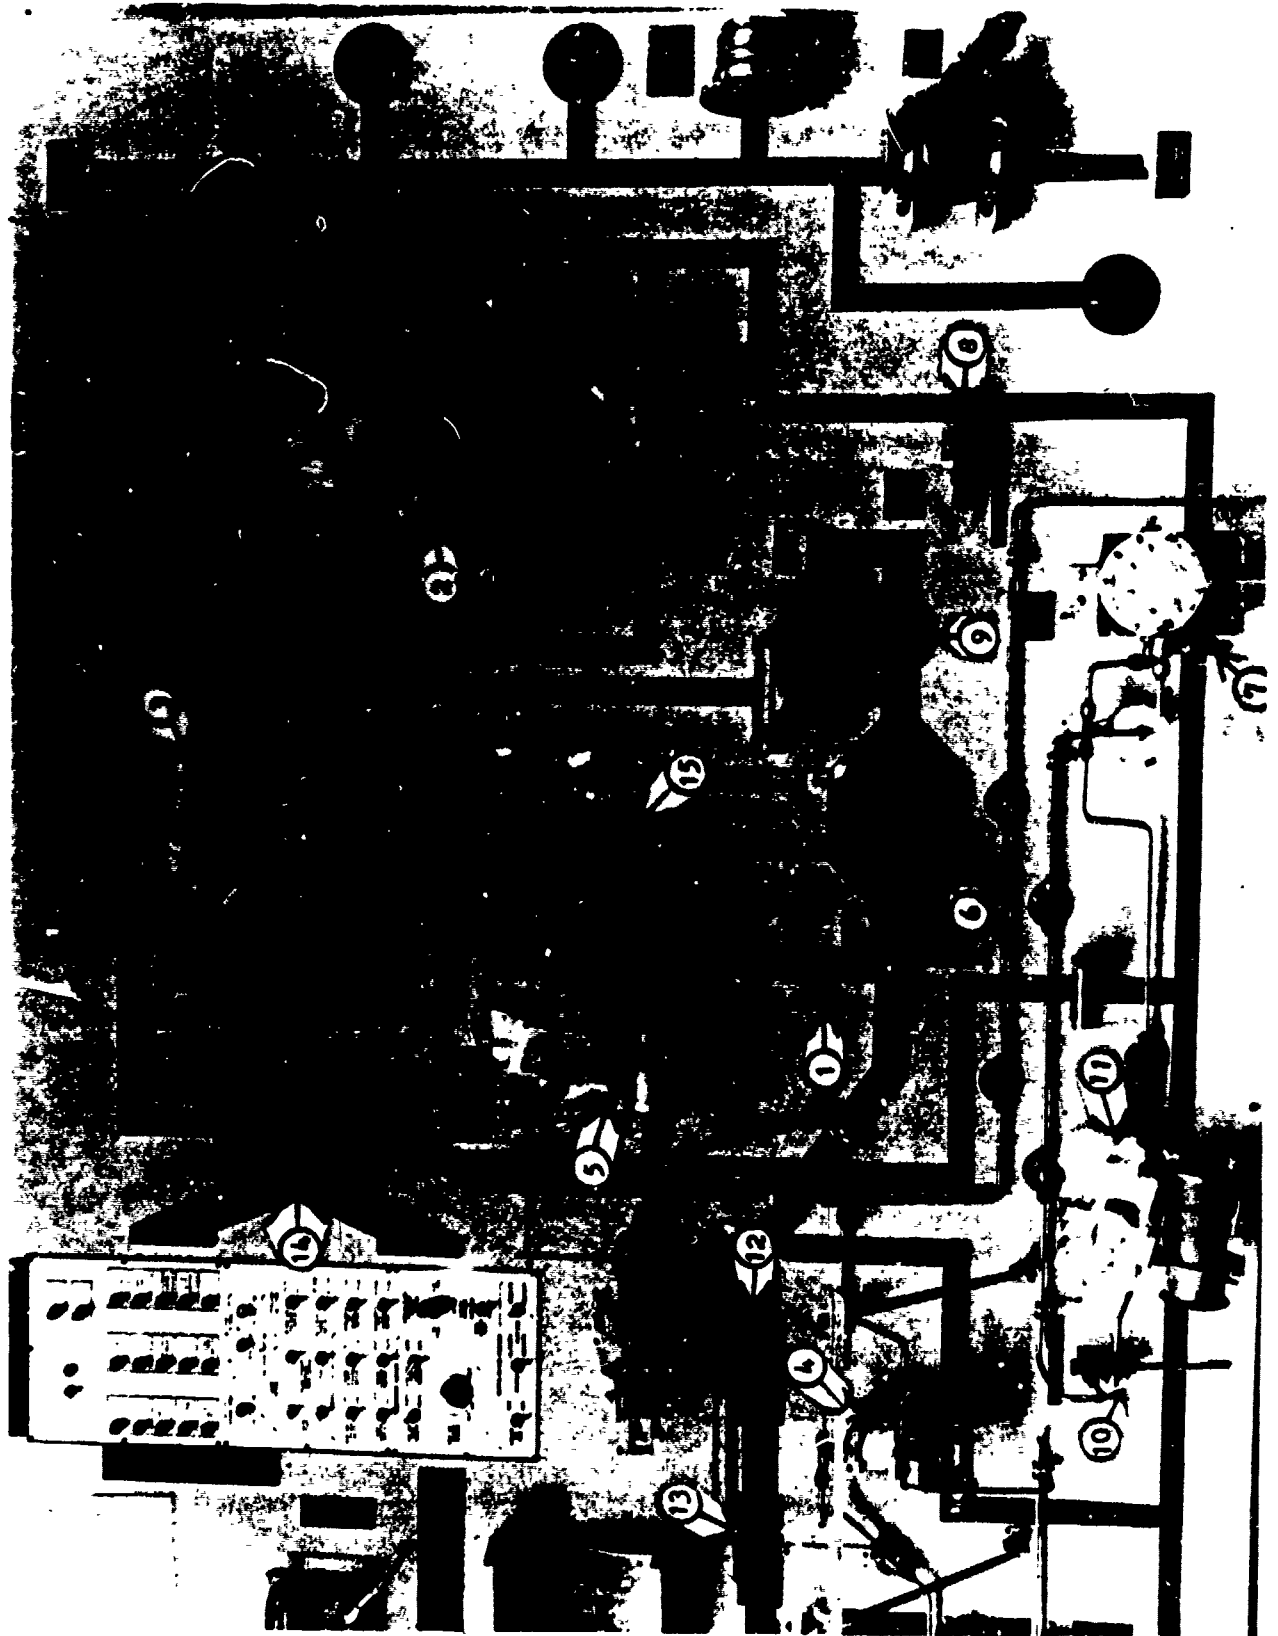

Figure 1.
a. Using the trainer and figure 1, find each of the numbered parts. Write the number that goes with the name of each of these parts in the blank space to the left of the name. As you find these parts follow the flow of air from the engines through hot and cold air systems.
ANSWERS FIGURE 1